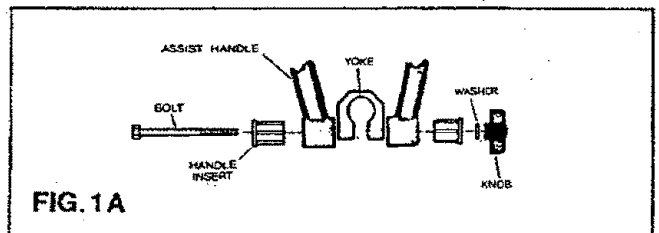

FIG. 1A
3. Locate the assist handle on the yoke (Fig. 1) and replace all parts as shown in Figure 1A.